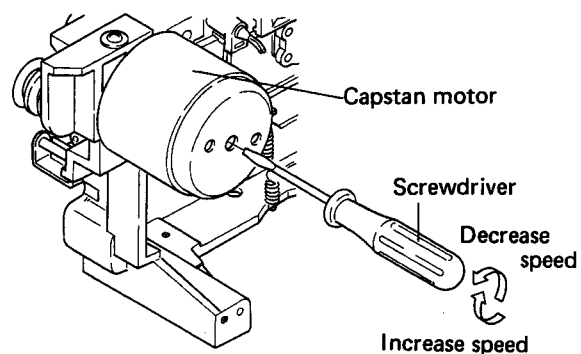

Fig. 8-2 Tape speed adjustment
2. Playback the 3kHz section of test tape STD-301. The frequency at the beginning of the tape should lie within 2,995Hz and 3,010Hz. Adjust the capstan motor adjustment screw (semifixed resistor) with a screwdriver (See Fig. 8-2) if necessary.